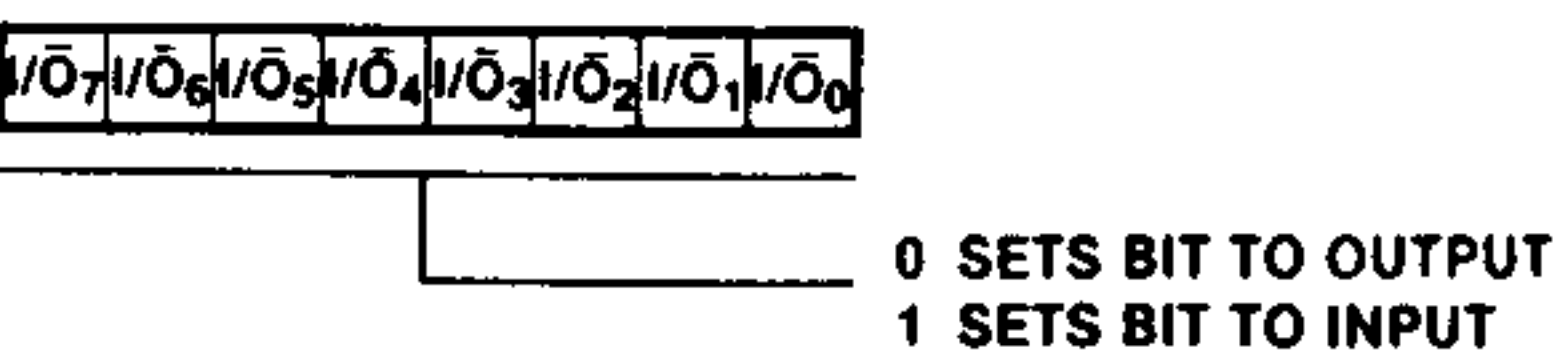

Figure 8. I/O Register Control Word
**I/O Register Control Word** (Figure 8). When Mode 3 is selected, the Mode Control Word must be followed by the I/O Control Word. This word configures the I/O control register, which defines which port lines are inputs or outputs. This word is required.